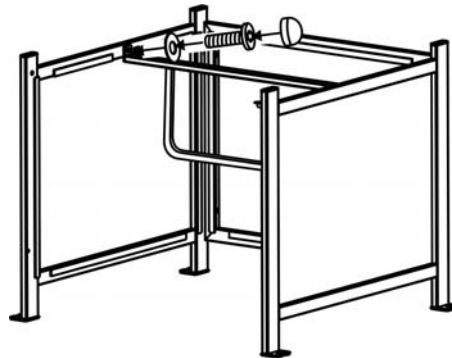

Figure 3
3. Attach the middle support to the side panels by using two 1/4"x20 mm bolts and Ø6.5x1.0 mm washers as shown in Figure 3. Guide the bolts through the holes in the middle support, into the pre-drilled holes in the side panels. **Hand tighten only.**